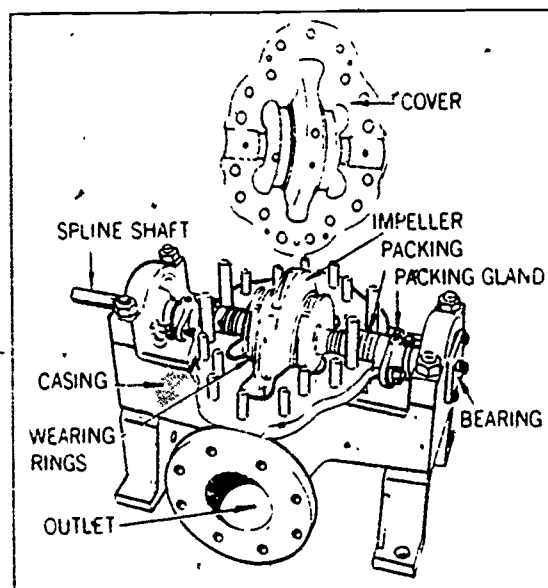

Figure 5-27. Circulating pump.
**Circulating pumps.** Circulating pumps are used to pump water for different purposes. These pumps are of the centrifugal type with a single stage and have a horizontally split case, as shown in figure 5-27. The